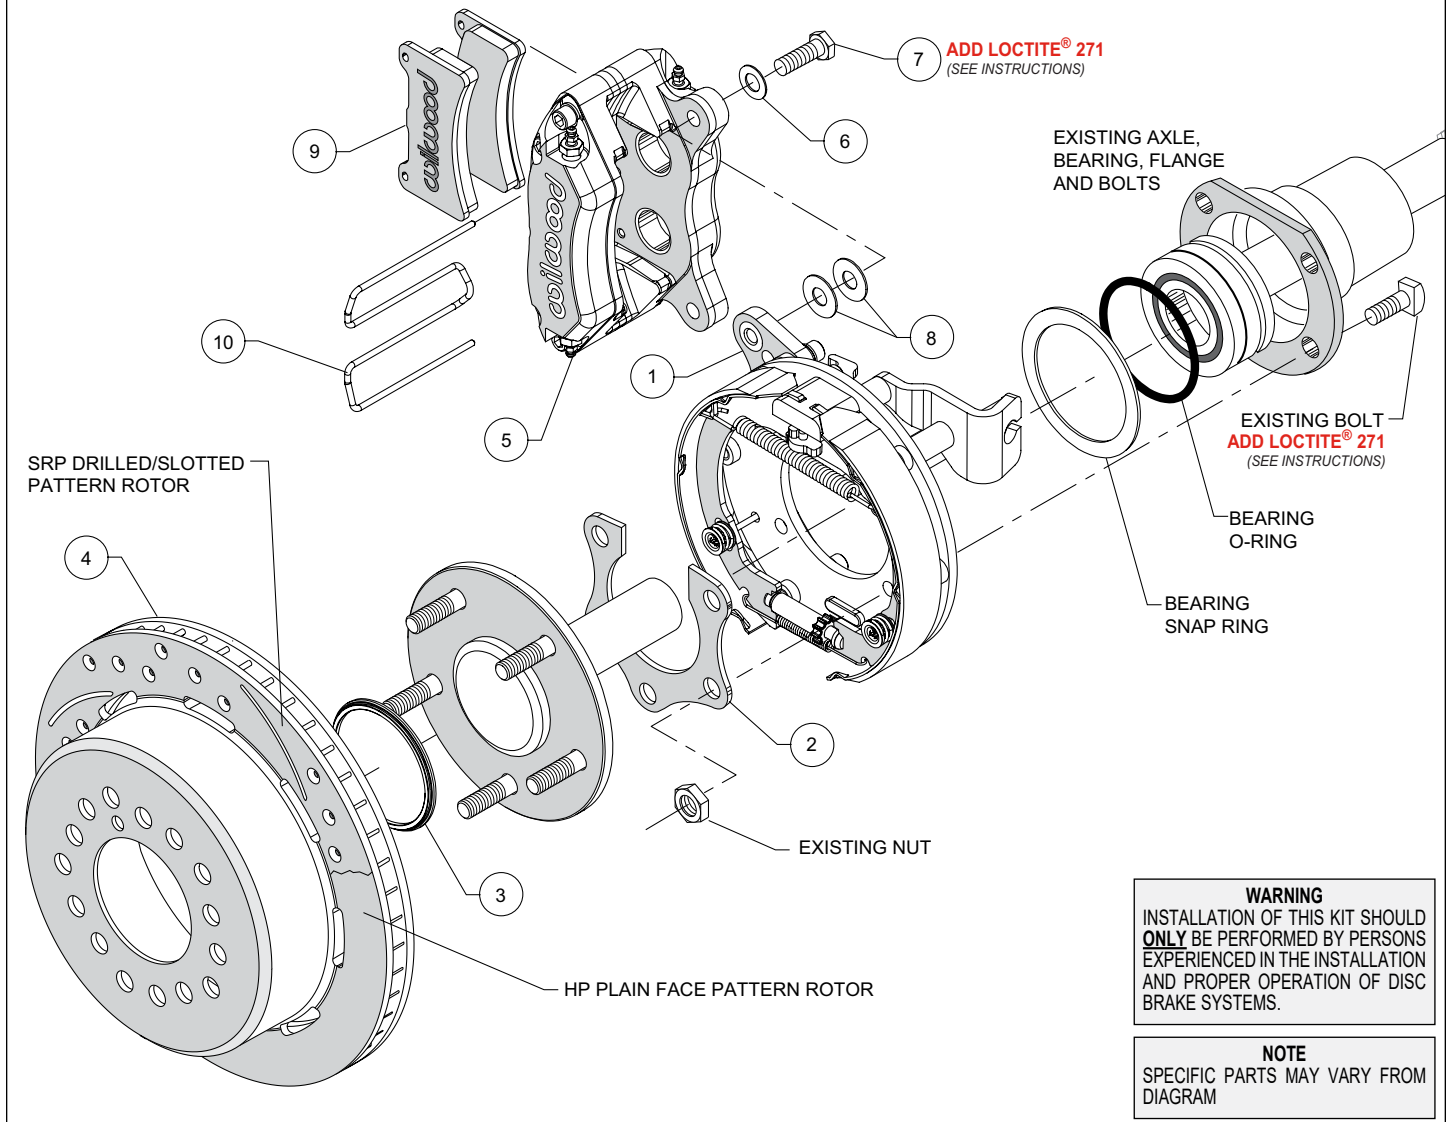

Figure 3. Typical Installation Configuration
**NOTE:** Numbers in parenthesis refer to the parts list and Figure 3 on the preceding pages.
• Temporarily remove the snap ring and o-ring from the bearing. Use care so as not to damage those components. Orient the bracket assembly (1) as shown in Figure 3 and Photo 1 and slide it onto the axle and past the bearing. Reinstall the snap ring and o-ring onto the bearing, again using care. Insert the axle and bracket into the axle housing. Ensure that the bracket assembly backing plate fits flush against the axle housing flange. **NOTE:** The bearing snap ring should be sandwiched between the axle housing flange and the new bracket assembly.
• Install the bearing retainer (2) with the opening pointing upward and the bearing relief step facing inward (toward the bearing), as shown in Figures 3 and 6, and Photo 2. Secure retainer and bracket assembly to the axle housing flange using the Original Equipment Manufacturer (OEM) bolts and nuts, Figure 3. Apply red *Loctite*® 271 to the OEM bolt threads and torque to OEM specifications.
• Slide the rotor registration adapter (3) onto the axle register on the axle flange with the smaller O.D. facing toward the rotor/hat (4), Photo 3. Align the correct hole pattern in the rotor/hat with the stud pattern on the axle flange and slide into place, Figure 3 and Photo 4. **NOTE:** The rotor/hat must fit flush against the axle flange or excessive rotor run out may result. Install three lug nuts (finger tight) to keep the rotor/hat assembly in place while continuing with the installation. **NOTE:** Some OEM and after market axles come with stud sizes larger than 0.50" diameter. Verify stud size and have a qualified machine shop drill the bolt circle of the hat/rotor to the correct stud size, if necessary.
• **NOTE:** Please reference the caution statement at the beginning of the assembly instructions. Mount the caliper (5) onto the caliper mounting bracket (1) using bolts (7) and washers (6), as shown in Figure 3. Initially place two .035" thick shims (8) on each bolt between the caliper and the bracket, Photo 5. Temporarily tighten